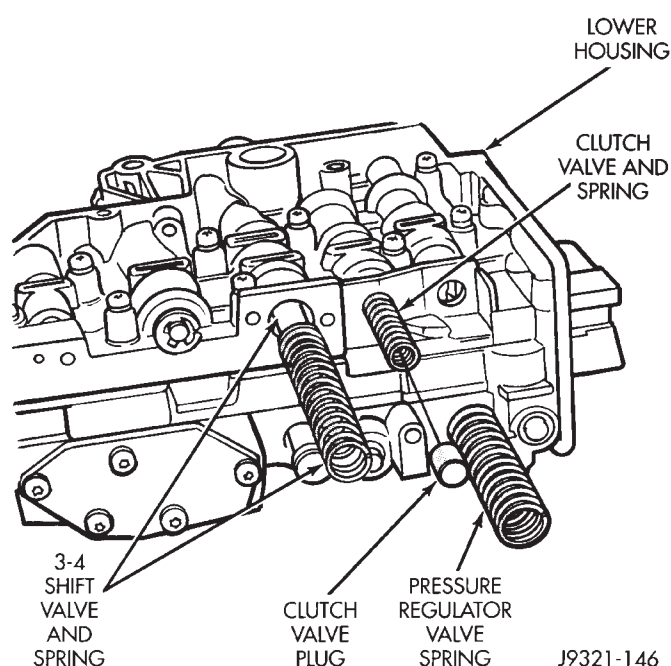

Fig. 111 Lower Housing Valve Spring Locations
(23) Remove pressure regulator valve spring from lower housing (Fig. 111).